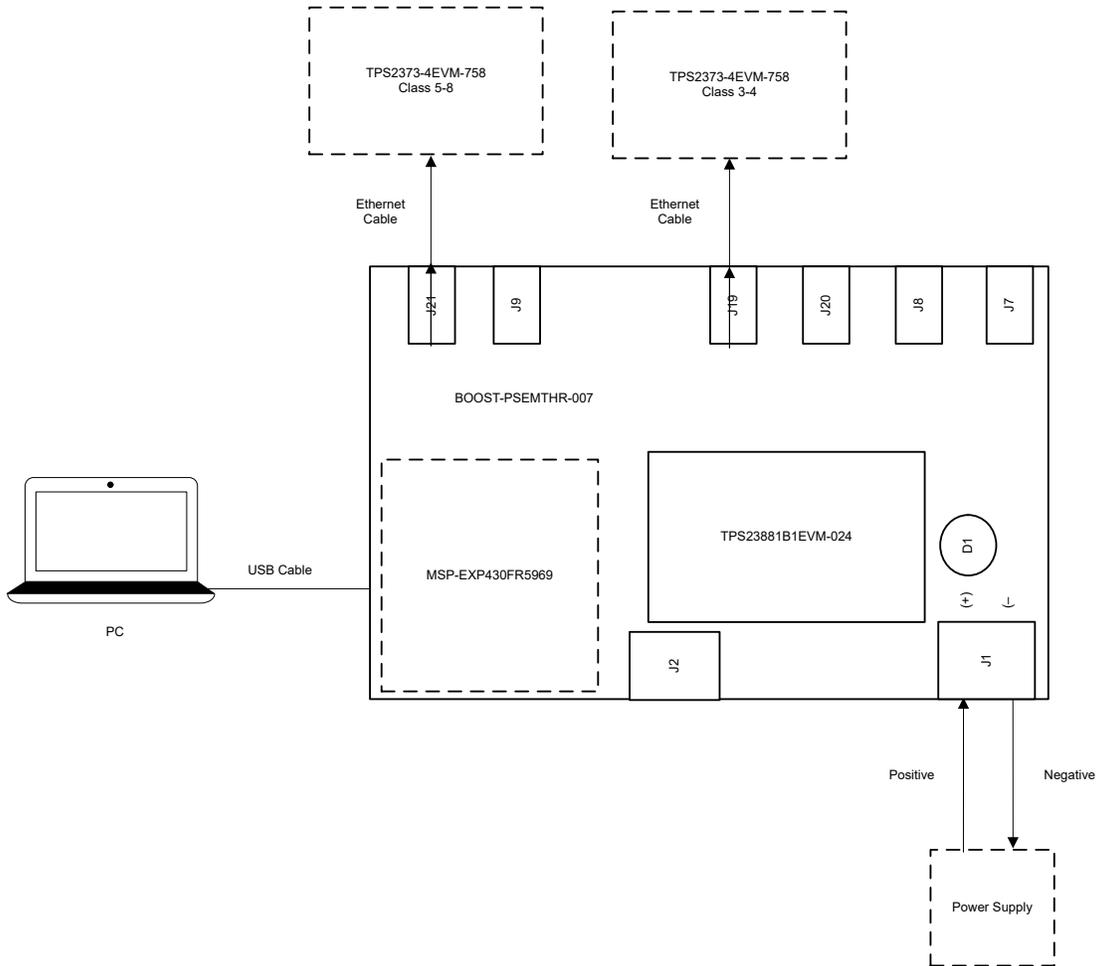

Figure 2-2. Advanced Setup Using LaunchPad
The LaunchPad (not included) running a custom software program can communicate with the TPS23881B1 devices on the TPS23881B1EVM-024. Figure 2-2 shows the advanced setup using LaunchPad.
2. Connect the PC to the LaunchPad as shown in Figure 2-2.